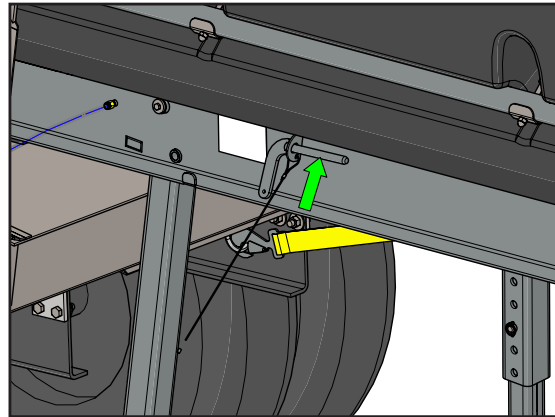
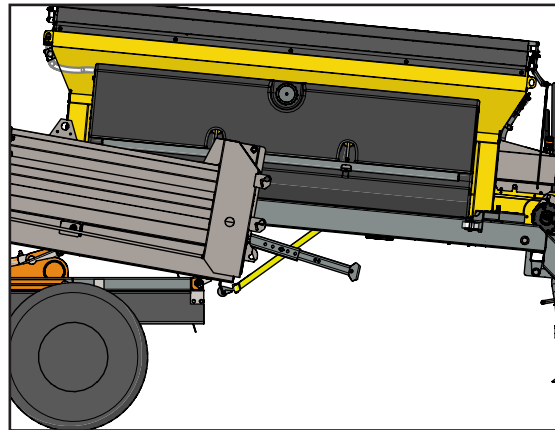

Figure 5 - Leg Support Lock Pin
Figure 6
- Figure 5 - Remove front leg supports' locking pins from hole as shown in Figure 6. Store locking pin in loop holder on side of frame.
- Figure 6 - Continue to back dump body underneath spreader until front leg supports fold up against edge of loading platform and truck makes contact with spreader.